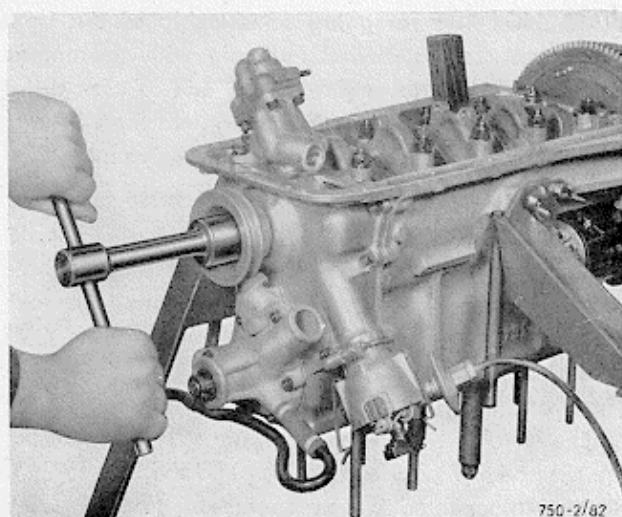

Fig. 82 - Dismantling the auxiliary part driving pulley from the crankshaft by means of the spanner 6121.20.040
- 2) Remove from the crankshaft the pulley which drives the auxiliary units (fig. 82).